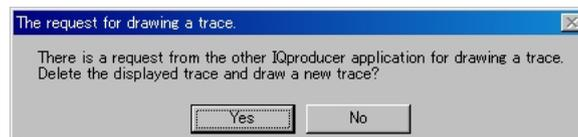

Figure 3.1.8-2 Confirmation message
2. Select **[CCDF]** from the **[Simulation]** menu or click the  tool button. At this time, the confirmation message shown in Figure 3.1.8-2 appears: